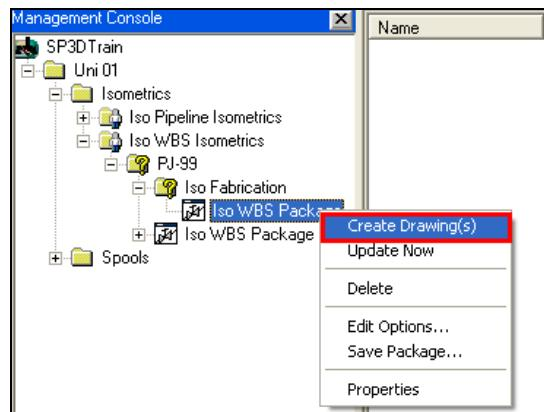

Figure 40: Create Drawing(s) Option
41. Now right-click the **Iso WBS Package** option in the hierarchy and click the **Create Drawings** option, as shown in Figure 40, to create the isometric drawing documents.